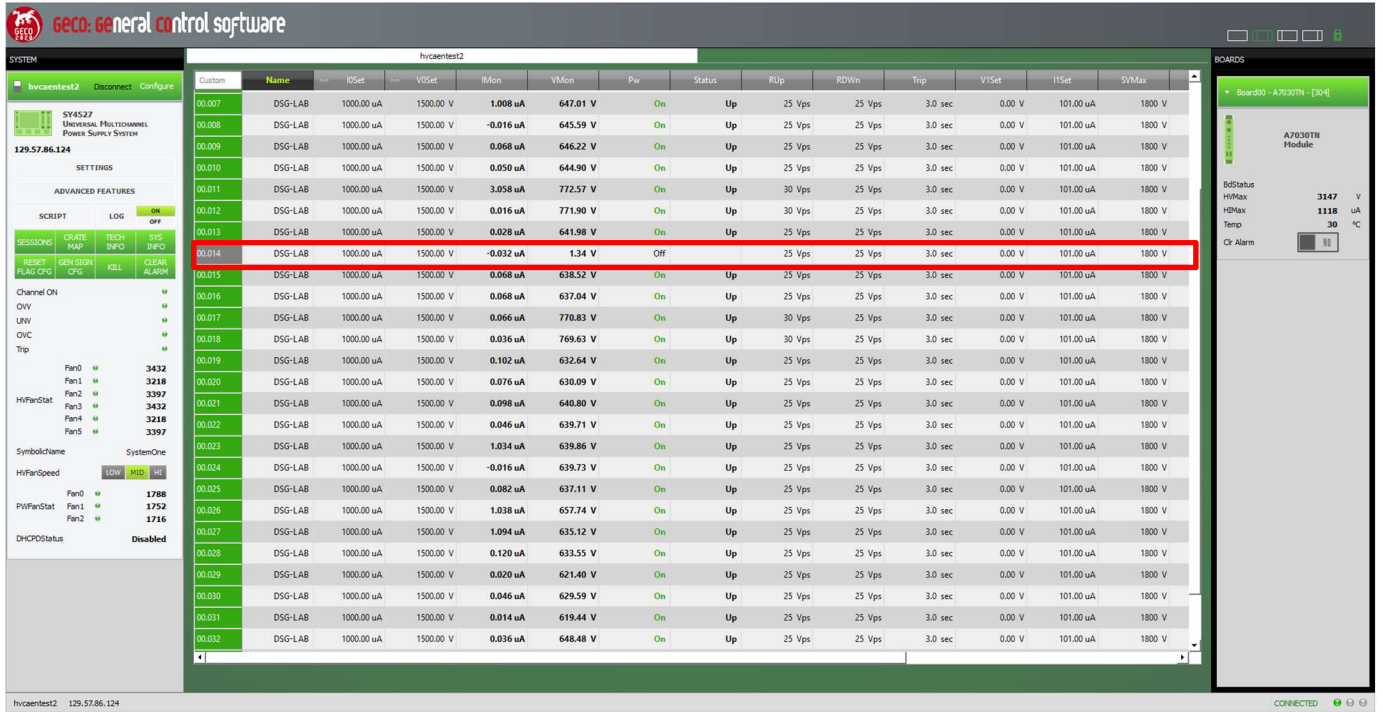
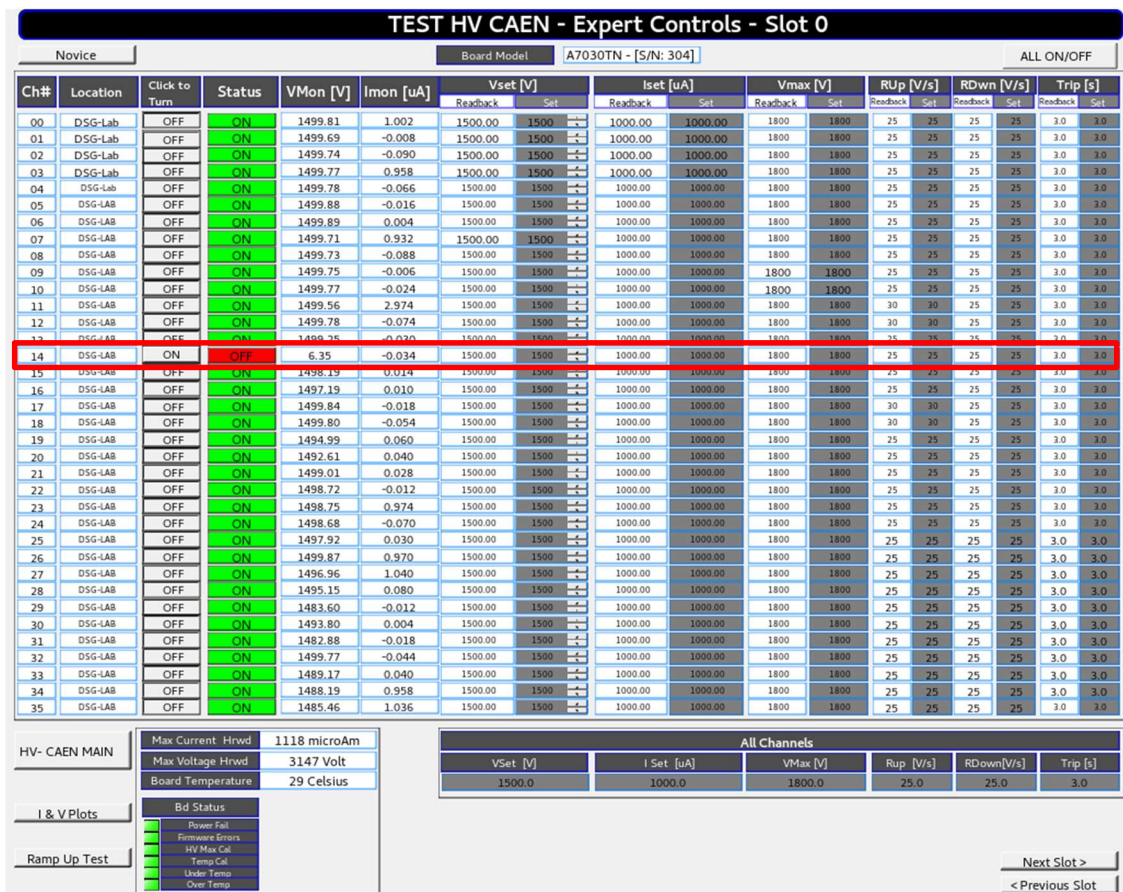

Fig.3 — GECON2020 screenshot shows channel 14 is off after all channels were set to turn on from JavaScript at CSS screen.
Fig.4 — Expert Controls CSS-BOY screen shows channel 14 off status after all channels were set to turn on simultaneously
- 3.2. Verified that nether PVs and GECO values went to set point. See fig.3 and fig.4.